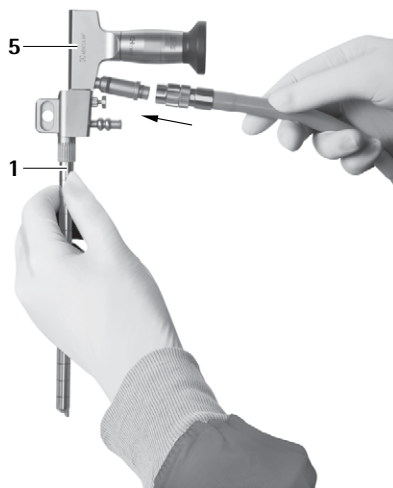

Fig. 3
► Connect light cable and camera, see Fig. 3–5.